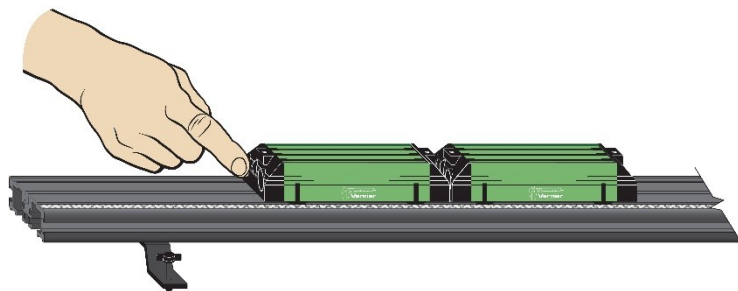

Figure 1
6. Begin collecting data, then gently push the linked carts towards one of the motion detectors (see Figure 1). Be sure to keep your hands out of the way of the motion detectors. Catch the carts before they run off the track. The velocity-time graphs from each detector should be nearly mirror images of one another; they will also show a slight decrease in velocity due to friction. Adjust the level of the track until this decrease appears to be nearly the same in both directions.